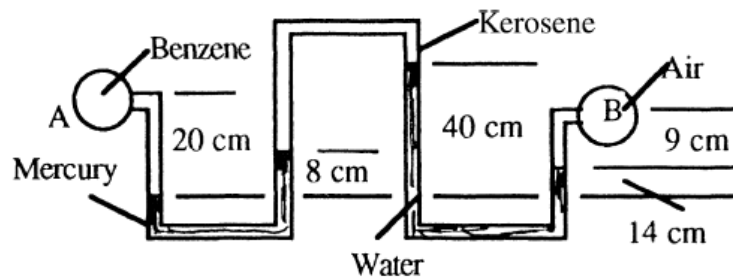

Fig. P2.31
2.31 In Fig. P2.31 determine Δp between points A and B. All fluids are at 20°C.